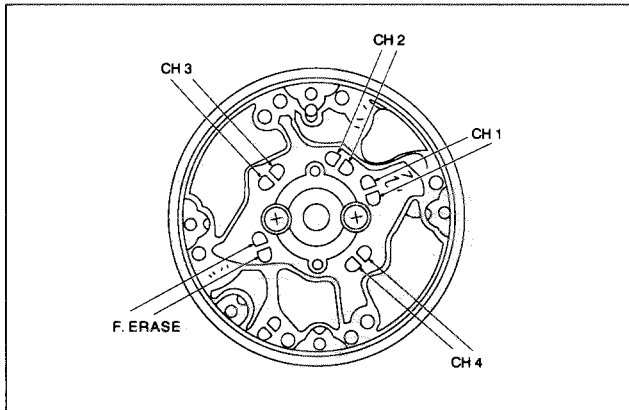

Fig. 2-3-1 Upper drum replacement (1)
1. Carefully unsolder at 10 points shown in Fig. 2-3-1 on the UPPER DRUM board.